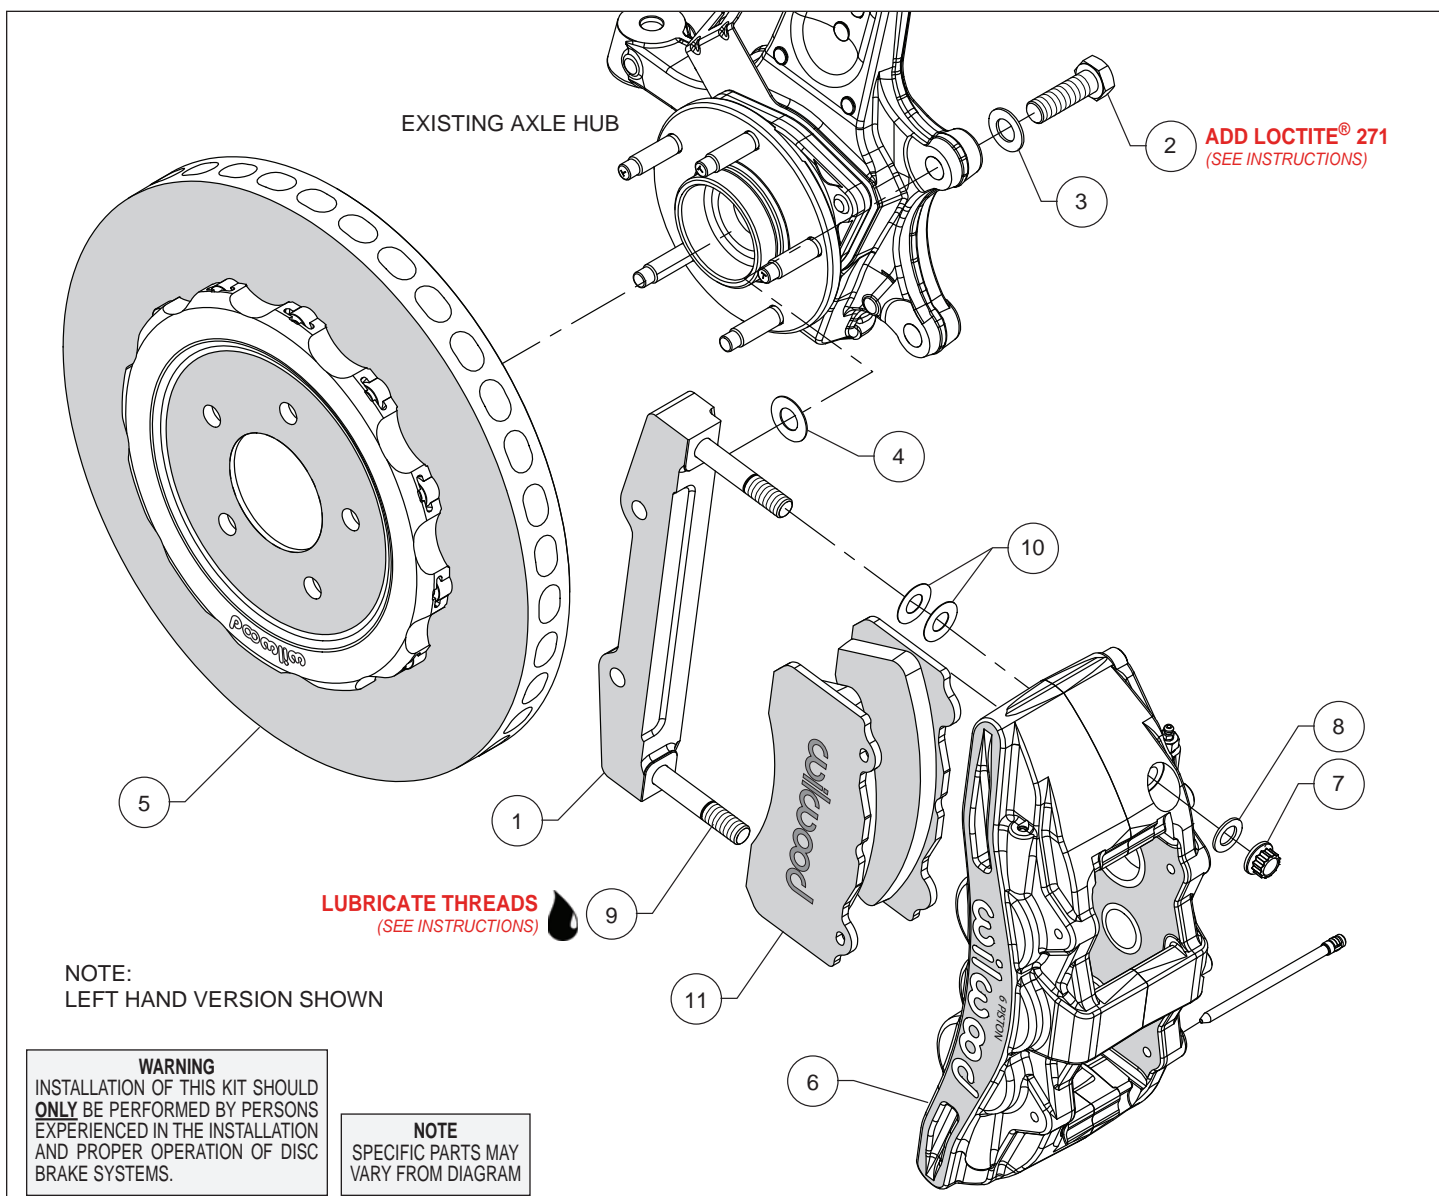

Figure 1. Typical Installation Configuration
Assembly Instructions (numbers in parenthesis refer to the parts list and Figure 1 on the preceding pages):
- The caliper mount bracket (1) should initially be installed with clean, dry threads on the mounting bolts. Orient the bracket, as shown in Figure 1 and Photo 1, and install using bolts (2) and washers (3). Initially place one .029" thick shim (4) on each bolt between the bracket and upright, Figure 1. Temporarily tighten the mounting bolts. **NOTE:** *The bracket must fit squarely against the mount bosses on the upright.* Inspect for interference from casting irregularities, machining ridges, burrs, etc. Later, after the caliper alignment has been checked, the mount bolts will be secured using red *Loctite*[®] 271.
- Slide the hat/rotor assembly (5) onto the axle hub. **NOTE:** *The hat must fit flush against the axle hub flange or excessive rotor run out may result.* Install three lug nuts (finger tight) to keep the hat/rotor assembly in place while continuing with the installation, Photo 2.
- NOTE:** *This kit contains distinct right and left hand calipers that must be mounted in a specific direction, as described below.* Lubricate the caliper mounting studs (9) with lightweight oil. Initially place two .015" thick shims (10) on each stud between the caliper and the bracket, as shown in Figure 1 and Photo 3. Mount the caliper (6) onto the bracket (1) using lock nuts (7) and washers (8), Figure 1. Temporarily tighten the lock nuts. Ensure that the caliper is mounted so the largest pistons are at the rotor exit end of the caliper, in relation to the direction of the rotor. View the rotor through the top opening of the caliper. The rotor should be centered in the caliper, Photo 4. If not, adjust by adding or subtracting shims (4) between the bracket and the upright. Always use the same amount of shims on each of the two mounting bolts. Once the caliper alignment is correct, remove the bracket mounting bolts (2) one at a time, apply red *Loctite*[®] 271 to the threads, and torque to 77 ft-lbs.
- Remove the two pad retaining pins from the caliper (6) by pushing out the pins from the tapered end using a blunt instrument. Insert the brake pads (11) into the caliper from the bottom, Figure 1 and Photo 5. With the friction material facing the rotor, secure the brake pads in place with the pad retaining pins, Photo 6. Reinstall the caliper onto the caliper mounting bracket and temporarily tighten the lock nuts. Check that the top of the brake pad is flush with the outside diameter of the rotor, Photo 7. If not, adjust by adding or subtracting shims (10) between the caliper and the bracket. After the caliper pad height is set, torque the caliper lock nuts (7) to 65 ft-lb.